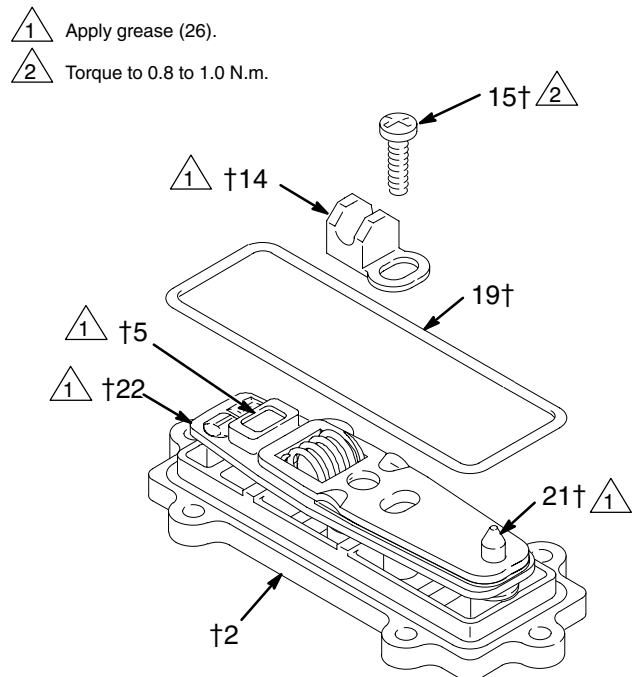

Fig. 12
8. Grease the inside surfaces of the shift saddle (14) and install it as shown in Fig. 12. Hold the link assembly firmly in place and install the screw (15). Torque to 0.8 to 1.0 N.m. Install the o-ring (19) on the cover (2).